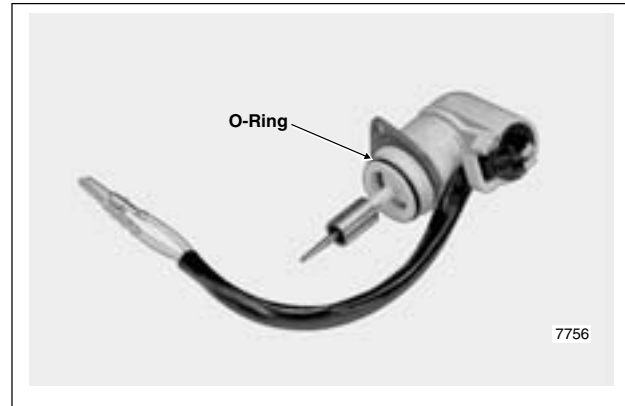

Figure 4-22. Auto-Enrichener
1. Obtain **new** auto-enrichener assembly. If old enrichener is used, inspect O-ring for cuts, tears or signs of deterioration. Replace O-ring if necessary. See Figure 4-22.